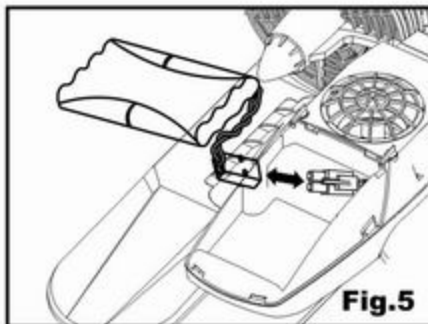

Fig.5
2. Insert fully charged **BATTERY PACK** into battery compartment as shown. Observe position of wire as shown. (Figs. 5)